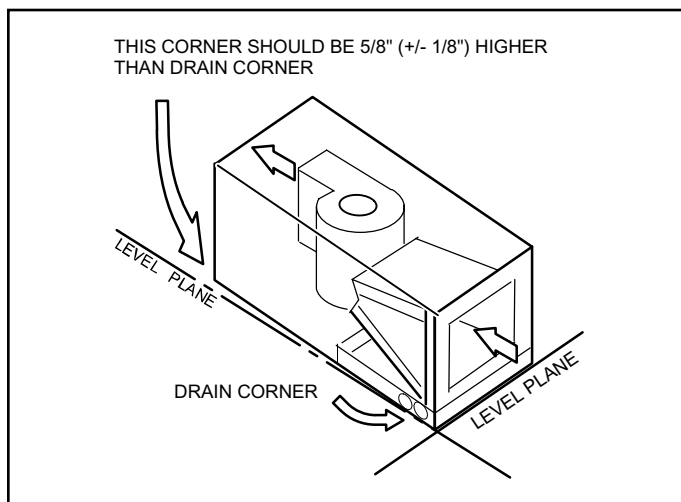

Figure 7. Sloping the Unit for Proper Drainage
3. Set unit so that it is sloped toward the upflow drain pan end of the unit and level from front to back of unit (see Figure 7).
Make sure the unit is sloped (similar to the slope shown in Figure 7) so that the drain pan will empty completely without water standing in the pan.